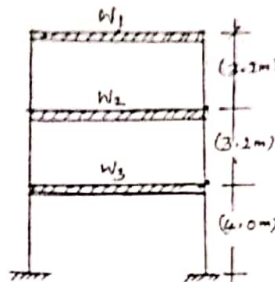

Fig.Q.5(b)
- b. For the residential RCC (special moment resisting frame, SMRF) building shown in Fig.Q.5(b). Compute the seismic forces by equivalent static procedure. Building is founded on hard soil (rock) and situated in zone IV. Given:  $W_1 = 294.3$  kN,  $W_2 = 1863.9$  kN,  $W_3 = 1079.1$  kN. (10 Marks)